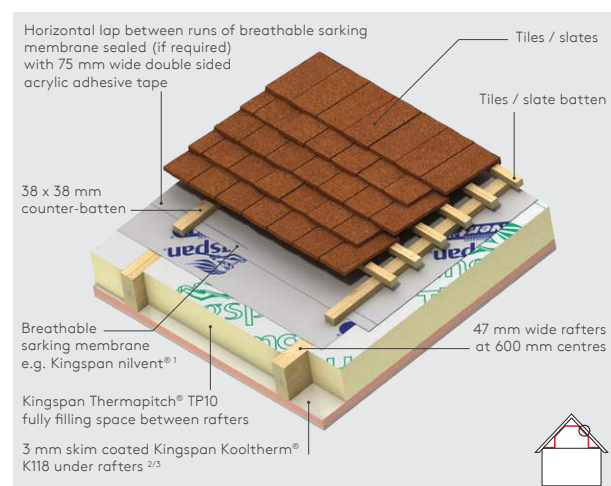

Figure 1a
NB When calculating U-values to BS EN ISO 6946: 2017, the type of mechanical fixing used may change the thickness of insulation required. The effect of fixings for Kingspan Kooltherm® K118 in the U-value calculations for Figures 1a, 1b, 1c, 1d, 2a, 2b, 4a & 4c is insignificant as the insulation layer penetrated is not the main insulation layer. The U-value calculations for Figures 3a & 3b assume that over rafter layers of insulation are fixed using stainless steel fixings with a cross sectional area 7.90 mm², with 3.7 fasteners per m² (insulant thickness 0-40 mm), 6.2 per m² (insulant thickness 41-60 mm), 8.3 per m² (insulant thickness 61-80 mm) and 10.0 per m² (insulant thickness 81-100 mm). The U-value calculations for Figures 3a & 3b also assume that over rafter layers of insulation are fixed using stainless steel fixings with a cross sectional area 9.1 mm², with 11.1 fasteners per m² (insulant thickness 101-125 mm). Please contact the Kingspan Insulation Technical Service Department (see rear cover) for project calculations.
- 1 In Figures 1a & 3a the breathable sarking membrane can be placed over the counter-battens, draped to provide for drainage and overlain with tile / slate battens. This will yield a marginally better U-value but it will be more difficult to seal the breathable sarking membrane effectively.